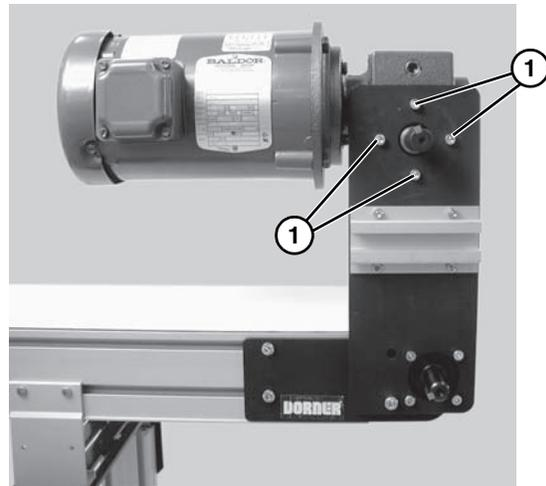

Figure 4
2. If required, change gearmotor position by removing four (4) screws (Figure 4, item 1). Rotate gearmotor to other position and replace screws. Tighten to 110 in-lb (12 Nm).